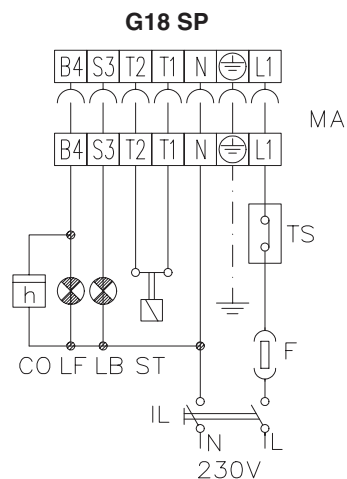

Fig. 8a
- effect the connections to the supply terminal board, as shown in Fig. 8a;